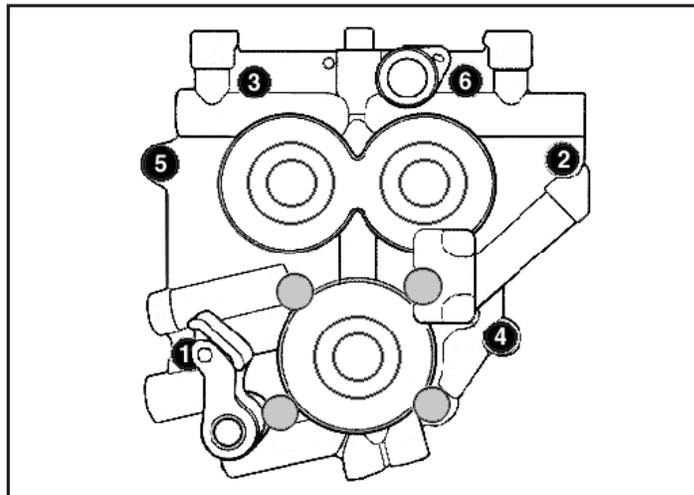

Figure 2
6. Following sequence shown in **Figure 2**, alternately loosen and remove cam support plate bolts.
- Loosely install support plate screws with a drop of blue thread locker. Alternately tighten screws to 95 in-lbs. torque following sequence shown. See Figure 2 on Page 4.
**Support plate screws that pass through alignment dowels (See positions 1 & 2 in Figure 2) can be easily stripped when applying maximum 120 in-lbs. torque as recommended in factory service manual.**